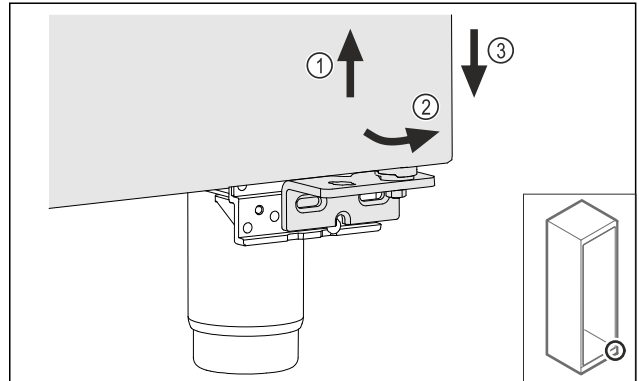

Fig. 16
- Lift the door slightly Fig. 16 (1), tip it forward Fig. 16 (2) and lower it Fig. 16 (3).